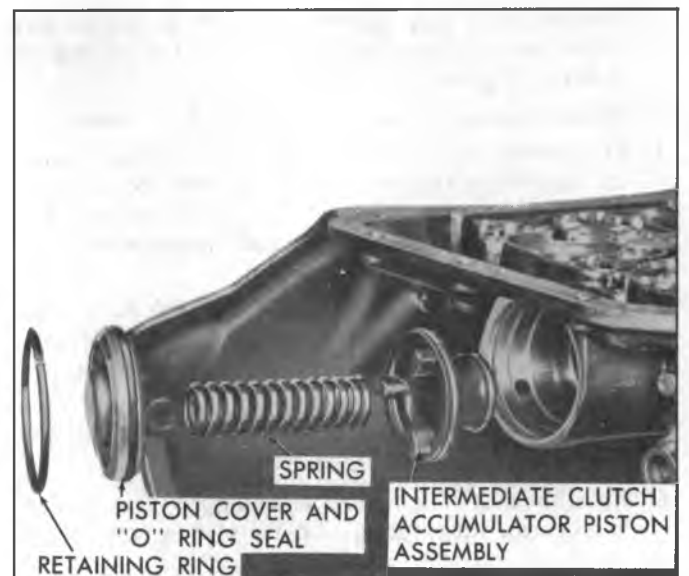

Fig. 52M—Intermediate Clutch Accumulator Components
28. Remove intermediate clutch accumulator piston spring. Remove intermediate clutch accumulator piston assembly. See Figure 52M.